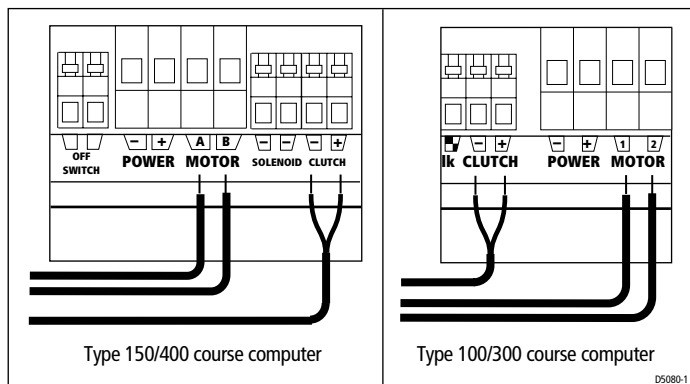

Figure 8: Course computer connections
- Additionally, the drive may face either way as you can correct the steering direction by reversing the polarity of the motor connections at the course computer (see *Figure 8*).
4. Connect the cables to the course computer (see *Figure 8*):